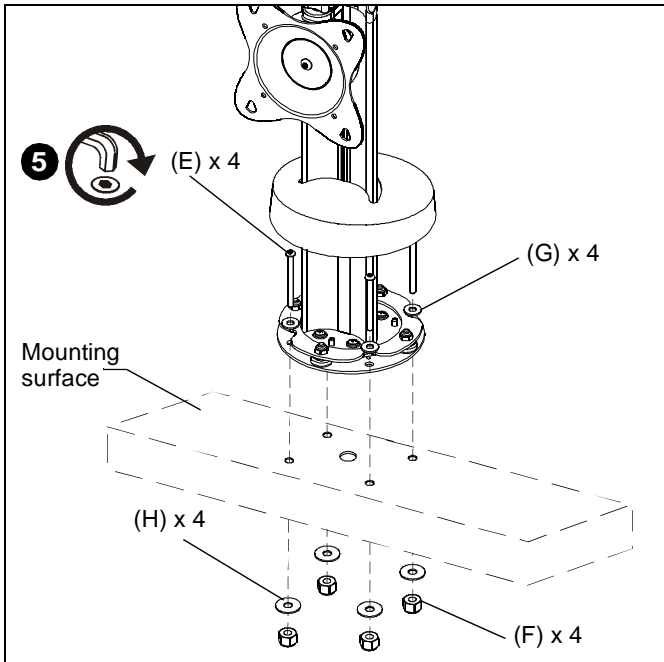

Figure 4
- Attach STS1 to mounting surface using 5/32" hex key (L) and four 1/4-20 x 3-1/4" button head cap screws (E), four flat 1/4" flat washers (G), four 1/4" fender washer (H), and four 1/4" Nylock nuts (F). (See Figure 4)